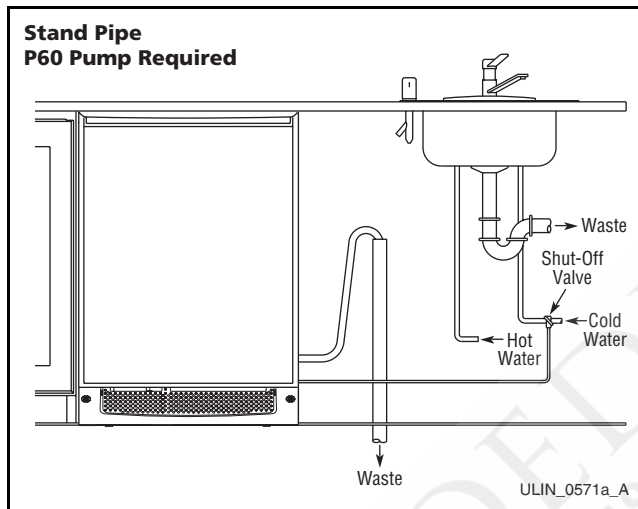

Figure 8
If your drain line will run up to a stand pipe, disposal assembly or spigot assembly or does not otherwise meet the requirements for a Gravity Drain, you may have ordered the CLR2160 or CLRCO2175 with a U-Line P60 Drain Pump. See **Figures 8, 9 and 10** for typical installations requiring a Drain Pump. If you need to install a P60 Drain Pump into your unit, see *Locally-Installed Drain Pump* on **Page 6**.
9. After unit is in its final position, finish routing drain tube to the desired location. Common installations use a floor drain, standpipe, garbage disposal, or Y-branch tailpiece type drain connection (**Figures 8, 9 and 10**).